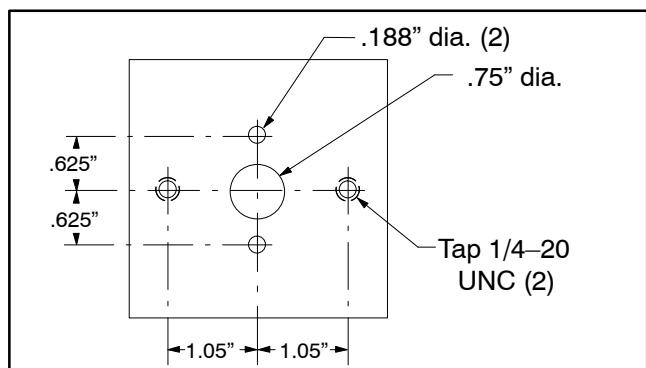

Figure 46
- A. Using a 1/4" thick, 3" X 3" square piece of steel, make a seal removal tool as shown in Fig. 46.